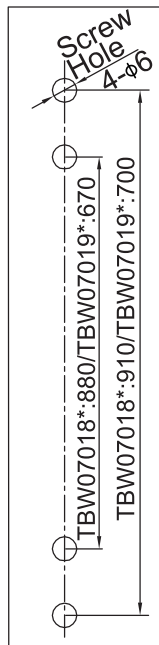

Figure 1
- 如图1, 对照产品型号, 在墙上合适位置打孔, 保证4个孔在竖直方向, 将膨胀套打入孔内。
1. As shown in Figure 1, referring to the product model, drill holes at the right position on the wall, ensuring the 4 holes at the vertical direction, and tap the wall anchors in.